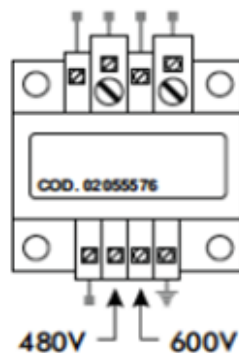

Figure 11: Image of auxiliary control transformer and arrows indicating where the signal wire will be plugged into (either 480V or 600V).
3. On the auxiliary control transformer, check the signal wire is plugged into the terminal identical to your AC power supply voltage (either 480V or 600V) (Figure 11).